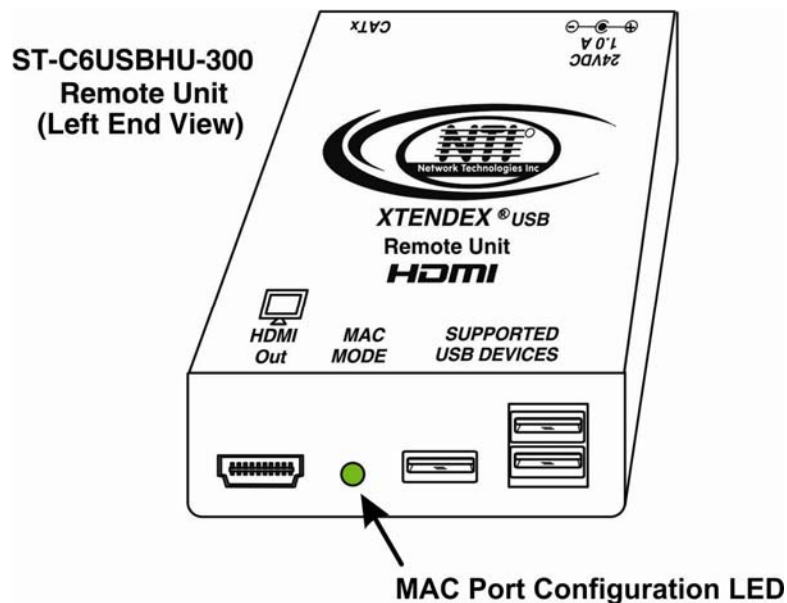

Figure 5- MAC LED
2. If a MAC CPU is connected, press the <M> key. The keyboard LEDs will momentarily flash and the "MAC" LED on the Remote Unit will illuminate to indicate MAC Mode is ON. (See Figure 5)